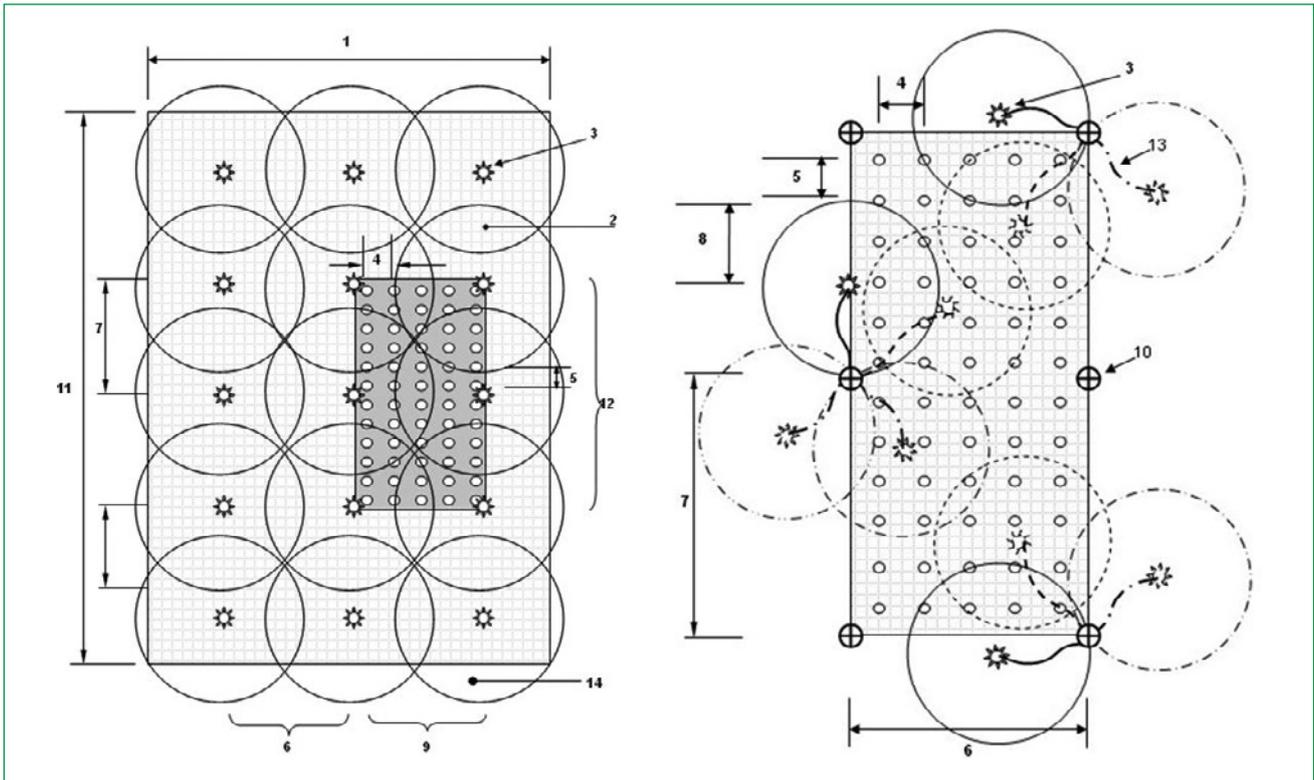

Figure 3.1. Location of sampling grid with a solid-set irrigation area and with a long-lateral system
2. Mark location of pressure regulators, flush valves and positions where tests are to be conducted (see Figure 3.1)
4. Measure the Field length and width as defined in Figure 3.1
2. Testing long-lateral systems requires special consideration. A satisfactory sampling design includes assessing the distribution from each potential sprinkler position within the sampling area (see Figure 3.1)